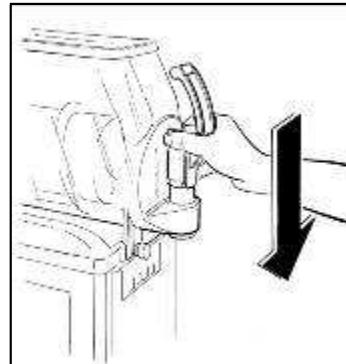

Рис. 40
- Re-insert the tap (Рис.40) spreading Vaseline on the o-rings to facilitate sliding the tap in its seat until completely inserted.